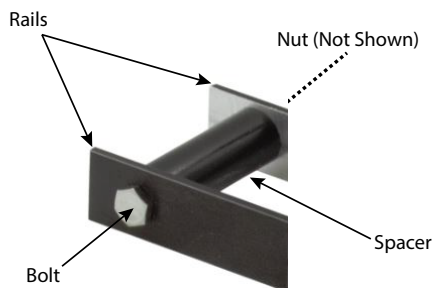

Figure 10: Secure rails to spacers
2. Position a spacer between the rails at each end. See Figure 10.